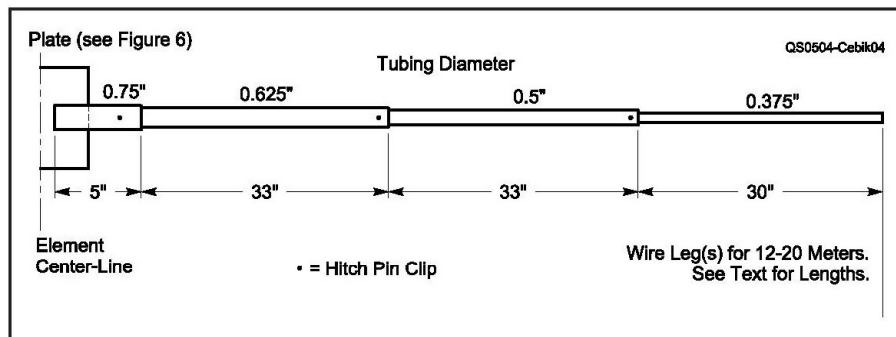

Figure 4—The general tubing layout for the inverted-U for each half element. The opposite side of the dipole is a mirror image of the one shown.
1. *The aluminum tubing dipole for 10 meters.* Each half of the aluminum tubing dipole consists of three longer detachable sections of tubing and a short section mounted permanently to the feed-point plate, as shown in Figure 4. Let's consider each half of the element separately. Counting from the center of the plate—the feed point—the element extends 5 inches using $\frac{3}{4}$ inch aluminum tubing. Then we have two 33 inch exposed tubing sections, with an additional 3 inches of tubing overlap per section. These sections are $\frac{5}{8}$ and $\frac{1}{2}$ inch in diameter, respectively. The exposed outer section is 30 inches long (with at least a